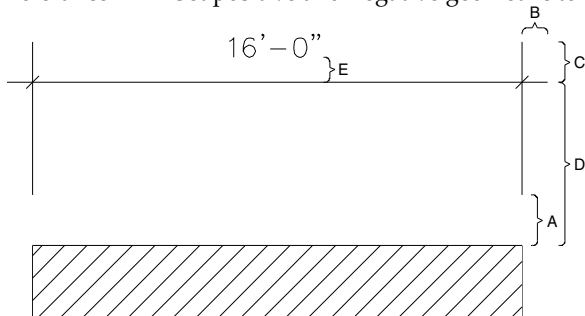

Figure 14.4: Dimension settings: A = Offset, B = Overrun, C = Overlap, D = Increment (with Fixed Incr. toggled on), E = Text Offset
- Offset Set the distance between the entity being dimensioned and the beginning of the extension lines of the dimension (see Figure 14.4).
Overlap	Set the distance extension lines are drawn past dimension lines (see Figure 14.4).
Increment	Set the distance between dimension lines when drawing baseline dimensions; this option has no effect on stringline dimensions unless set to 0, which results in a running dimension without the first arrow (see Figure 14.4).
Overrun	Set the distance dimension lines are drawn past extension lines; a setting of 0 results in the dimension line ending at the extension lines (see Figure 14.4).
Fixed Incr.	Toggle on to draw dimension lines a fixed distance away from the entity being dimensioned; toggle off to enter the distance yourself when you click to select which side of the entity to draw the dimension on (see Figure 14.4).
Offset	Set the distance between the entity being dimensioned and the beginning of the extension lines of the dimension. See Figure 14.4 for an example of Offset and Overlap settings.